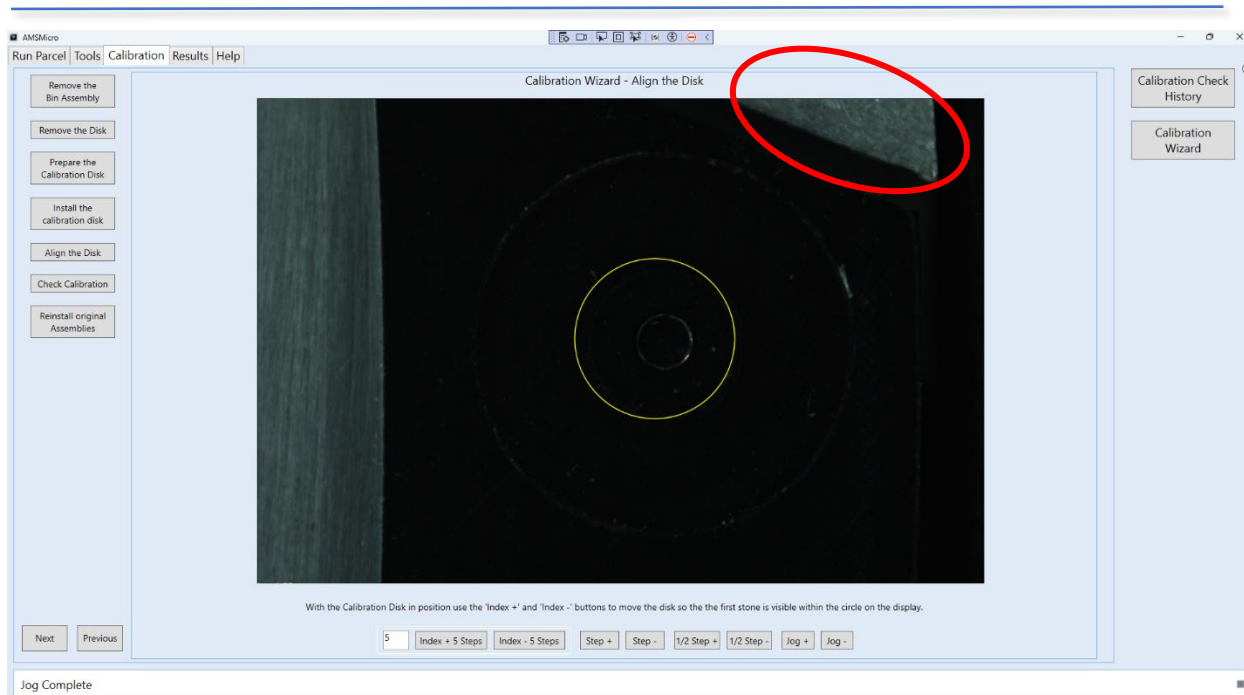

Figure 55- Calibration Wizard Disk Alignment
- 5) Align the first stone on the Colour Calibration Disc in the centre of the yellow circle on the screen. Use the buttons at the bottom of the window to adjust the position of the Disc until the stone is centred. The buttons have a decreasing amount of adjustment from left to right. **It is essential that the first stone of the set¹⁰ (rather than any other stone) is aligned** A good indication is that the edge of the insert is visible (*Figure 55*):